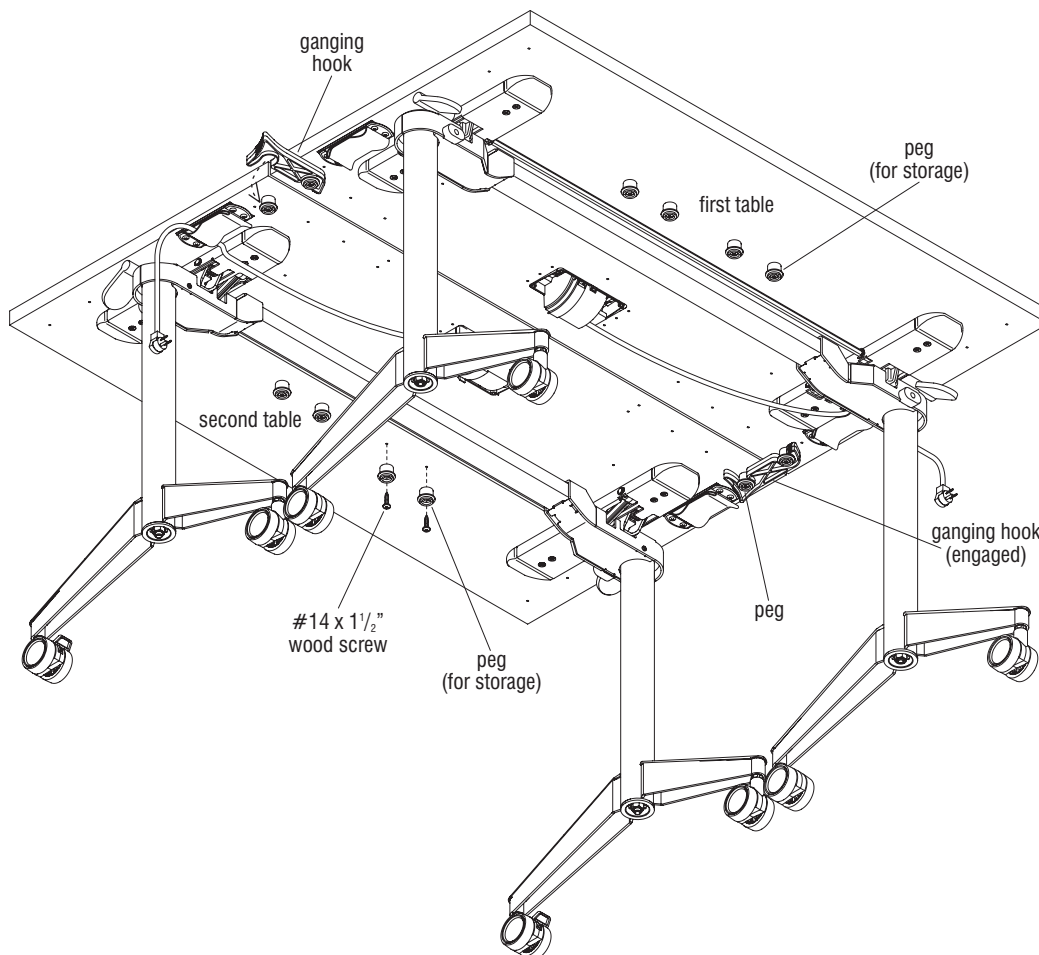

Figure 14 - Nesting-Base Tables with Back-to-Back Ganging
Note: Take note of the correct orientation of ganging hooks and peg mounting locations to assure proper latching for back-to-back ganging (Figure 14).
1. Carefully turn tables to the upright position. As illustrated, and based on the table depth, install two hooks to the first table using two pegs and #14 x 1 1/2" wood screws for back-to-back ganging of two tables. Next, install four pegs at the other illustrated locations on the first table for future use to store ganging hooks (Figure 14).
2. At the second table, install two pegs inline with the first set of pegs with installed ganging hooks and four pegs for future use to store ganging hooks (Figure 14).
3. Move tables together and swing the ganging hooks of the first table to securely engage the pegs under the second table (Figure 14).